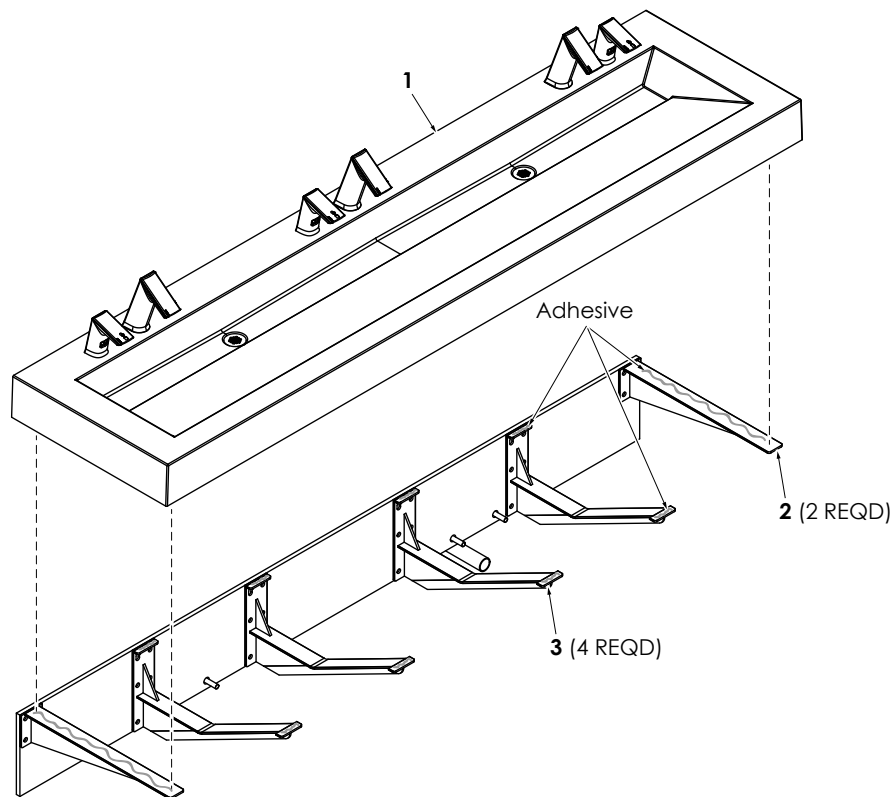

Figure 20
6. Install Deck (1, Figure 20) onto Side Brackets (2) and Middle Brackets (3).